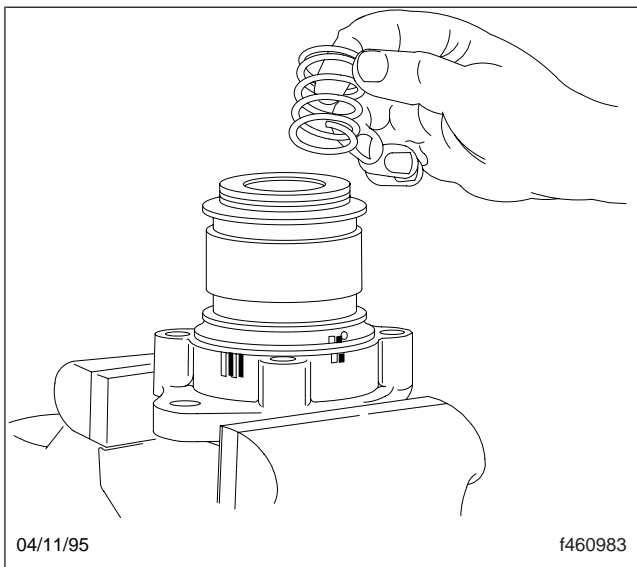

Fig. 7, Removing the Spring
6. Remove the spring. See Fig. 7.